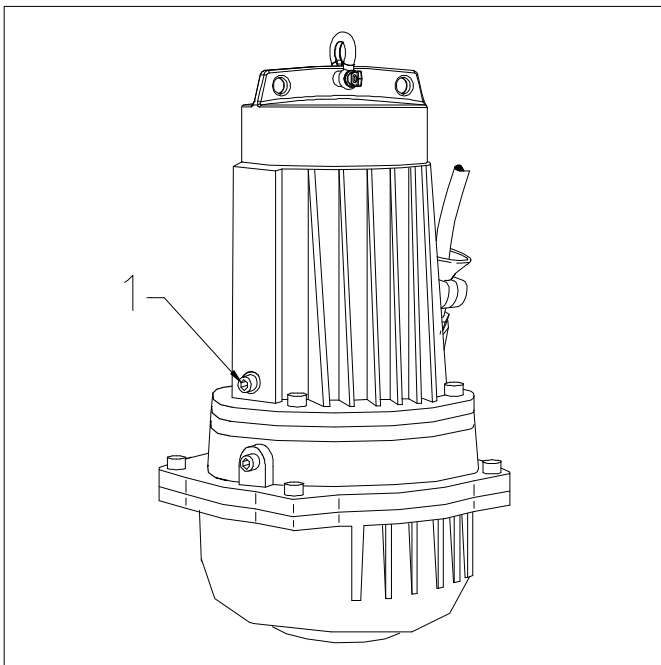

Fig. 7.7
This plug is found at the opposite side of the cable entries (see Fig.7.7 pos 1).